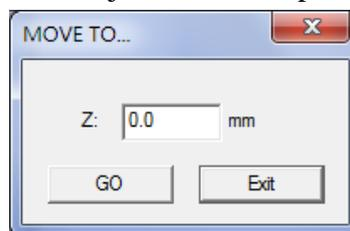

Fig. 1.7.33
1. Click "MOVE TO..." button and input the value in the dialog box like Fig.1.7.33 and click "GO," the Z Axis will move to that specific position. The moving speed can be adjusted from "Speed" parameter.